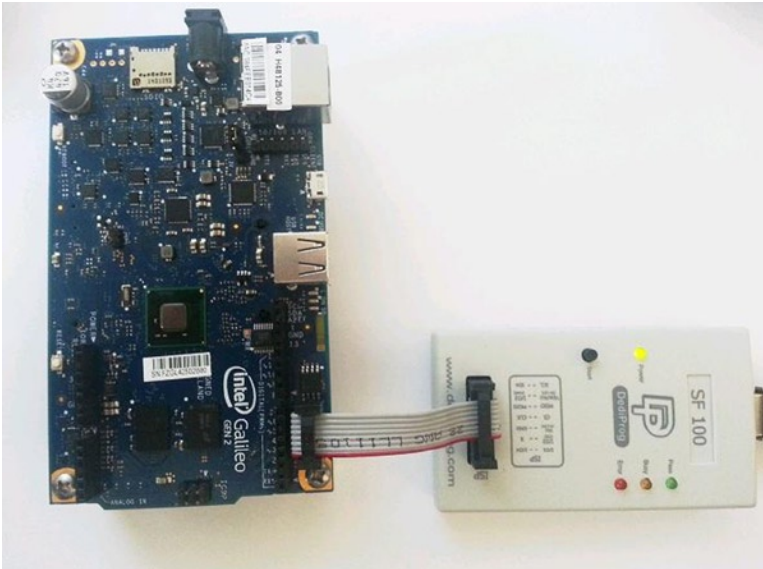

Figure 2-15. DediProg SF100 connected to Intel Galileo Gen 2
1. Connect the DediProg SF100 to Intel Galileo by using the SPI programmer terminal, as shown in Figure 2-15, but make sure that Intel Galileo is not connected to any power supply and that the DediProg SF100 is connected to your computer via a USB cable. There is no power supply involved in this process, and the DediProg SF100 uses energy from your USB port. Both the board, Intel Galileo, and Intel Galileo Gen 2 offer the SPI flash port, basically in the same position.